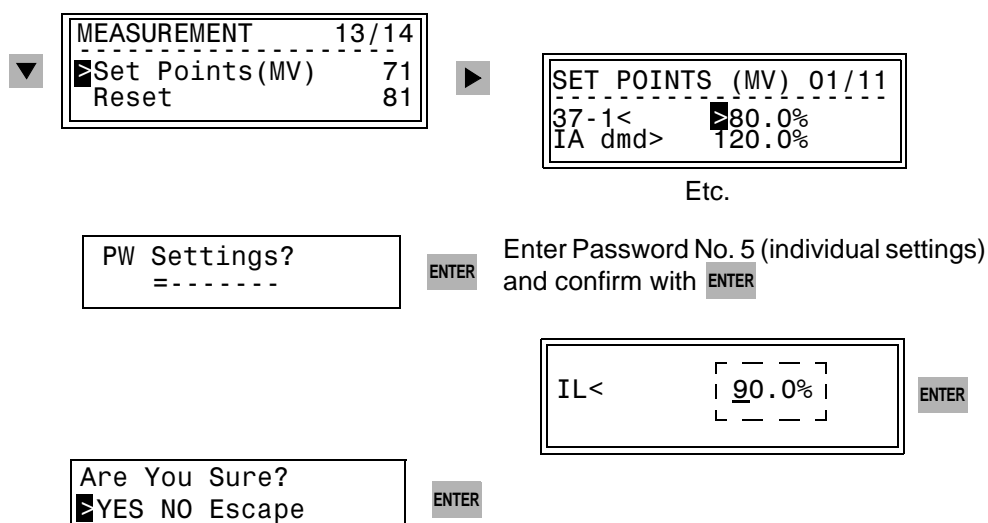

Figure 7-25 Setting Limit Values at the Front Panel — Example
There, select the menu item **Set Points (MV)** with the ▼ key, and switch to the list of limit values using the ▶ key (see Figure 7-25).
Upon leaving this level using the or , the safety inquiry “Are you sure?” appears, with the default answer “Yes” (Figure 7-25). Confirm with the key if the value should become effective. If a change to the value is not desired, press the key so that the answer “No” is marked, and confirm this with the key. To correct the value, mark “Escape”, confirm this with the key, and enter the value again